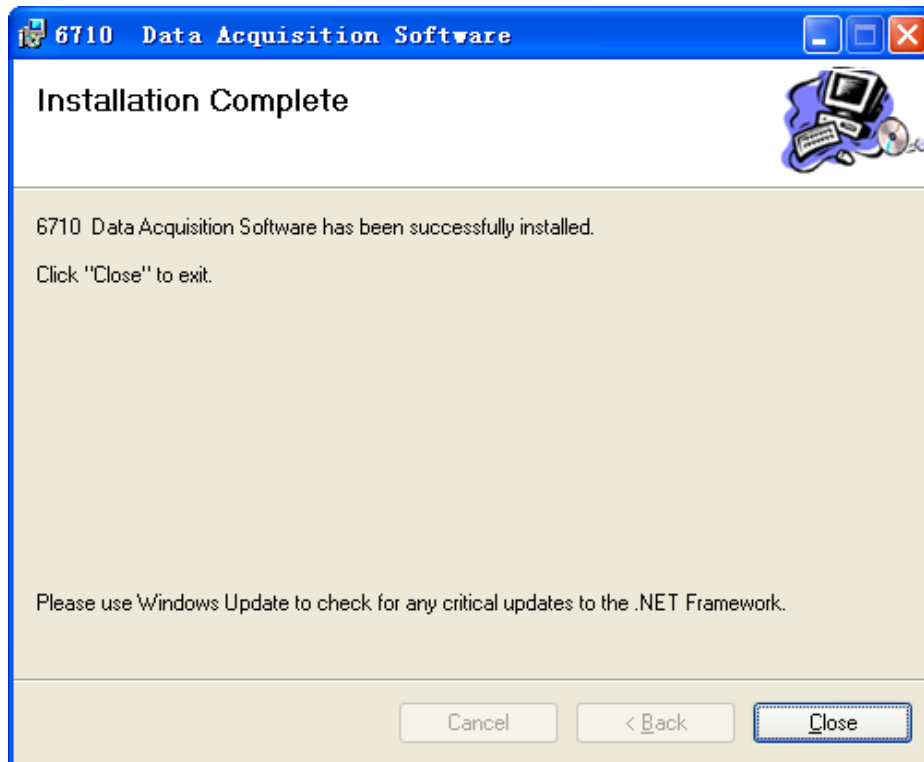

Figure 2-5
5) When the screen shown in Figure 2-5 appears, press “Close”.